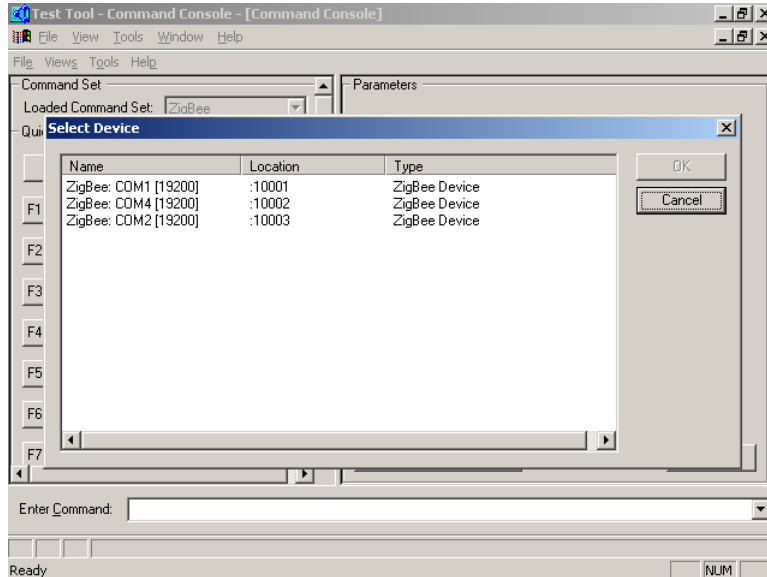

Figure 6-3. Test Tool Window (Command Console Device Select)
2. Select the device COM port and click the OK button as shown in Figure 6-3.